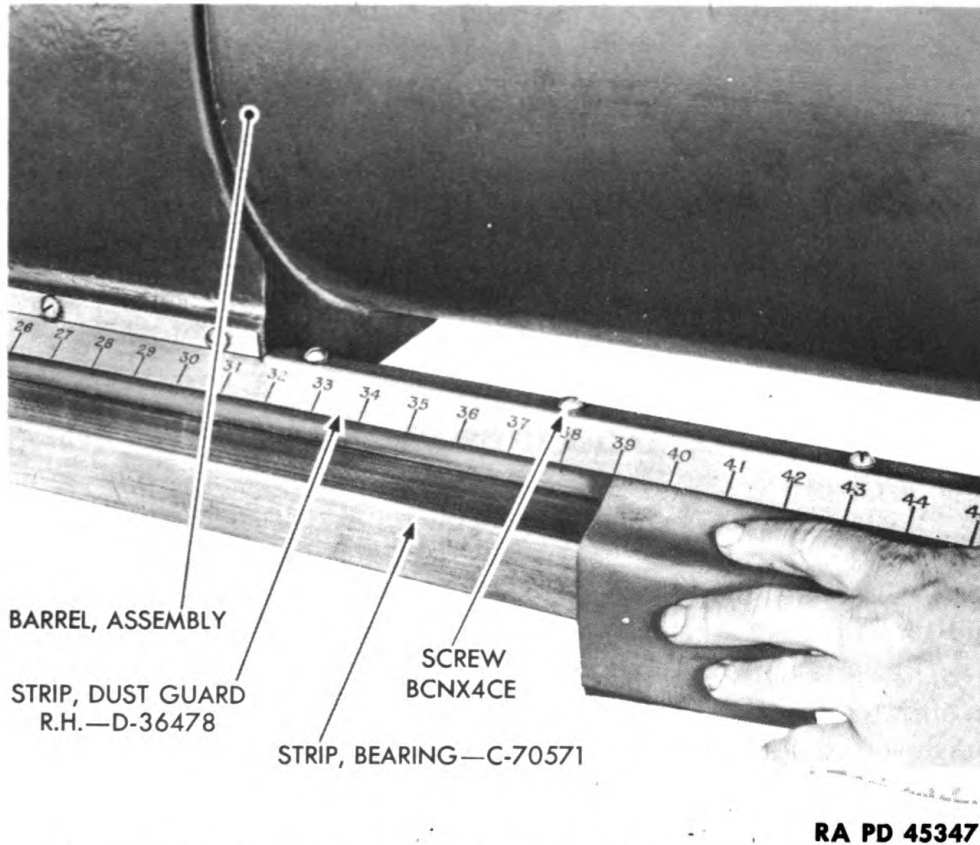

Figure 75—Repairing Bruised Bearing Strip (8-in. Howitzer)
(1) Check the bronze bearing strips, which are riveted to the longitudinal rails on which the barrel slides in recoil and counterrecoil, for scores and bruises. If not scored, bruised, or damaged beyond repair, remove scores and burs with a flat scraper or smooth file. Remove only enough metal to level the surface. Polish with CLOTH, crocus (fig. 75).
(2) Always clean bearing strips with SOLVENT, dry-cleaning, after scraping and polishing. Otherwise, small particles of metal will act as an abrasive when barrel is in operation.
(3) Report badly damaged bearing strips or rails to the Chief of Ordnance.
(1) Straighten a bent dust guard strip (fig. 75) by removing it from the barrel assembly and bumping out dents on a flat metal surface with a hammer.
(2) Replace a badly damaged dust guard strip with a new one.